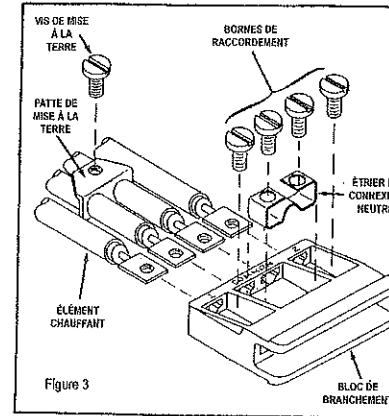

Figure 3
8. Assemble terminal block to element of new unit as shown in Figure 3. **IMPORTANT** — Be sure to place "common" jumper over two center element terminals before attaching screws.
- Fixez le bloc de raccordement à l'élément du nouveau serpentin, tel qu'illustré à la Figure 3.